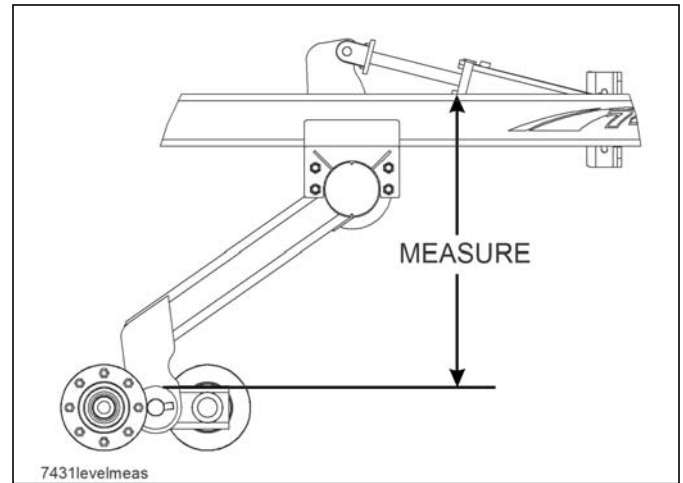
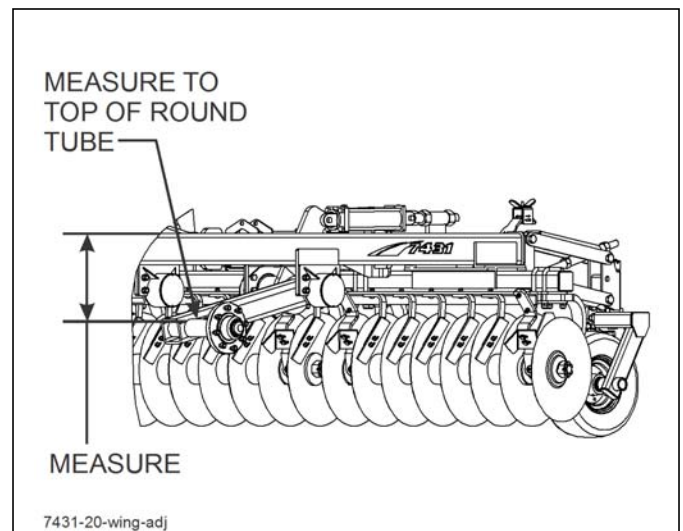

Figure 4-9: Leveling from Side to Side
Figure 4-11: 7431-20 Wing Lift Adjustment
- d. On the center frame, measure the distance from the welded washer to the top side of the frame **(See Figure 4-9.)**
- e. Measure the same distance on the wing frame. The wing frames are generally set to the same distance or slightly higher than the center frame. The 7431-20 requires adding 3/4" to the measurement shown in **Figure 4-9** and measuring to the top of the spindle tube on the wing lift as shown in **Figure 4-11**. The 7431-23 should measure the same all the way across the machine. The 7431-26/29 requires adding 5/16" to the center frame measurement for the wings if equipped with 380/55R-16.5 tires. The 7431-33 requires adding 5/8" to the center frame measurement for the wings due to the larger tires.